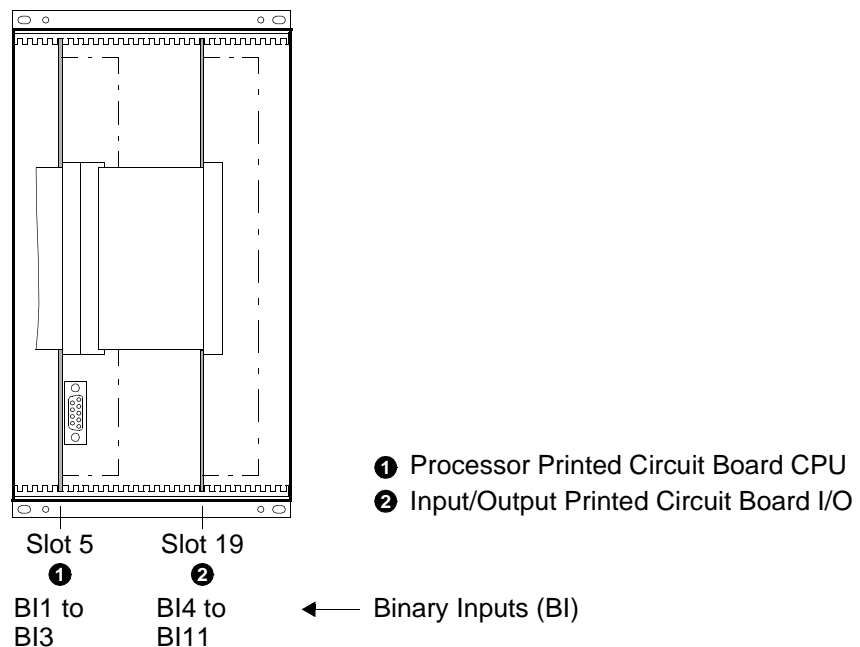

Figure 8-4 Front View After Removing the Front Cover (Simplified and Reduced)
The locations of the printed circuit boards are shown in Figure 8-4.
- ☐ Carefully insert the boards into the case. The installation locations of the boards are shown in Figure 8-4. For the model of the device designed for surface-mounting, use the metal lever to insert the CPU board. The installation is easier with the lever.